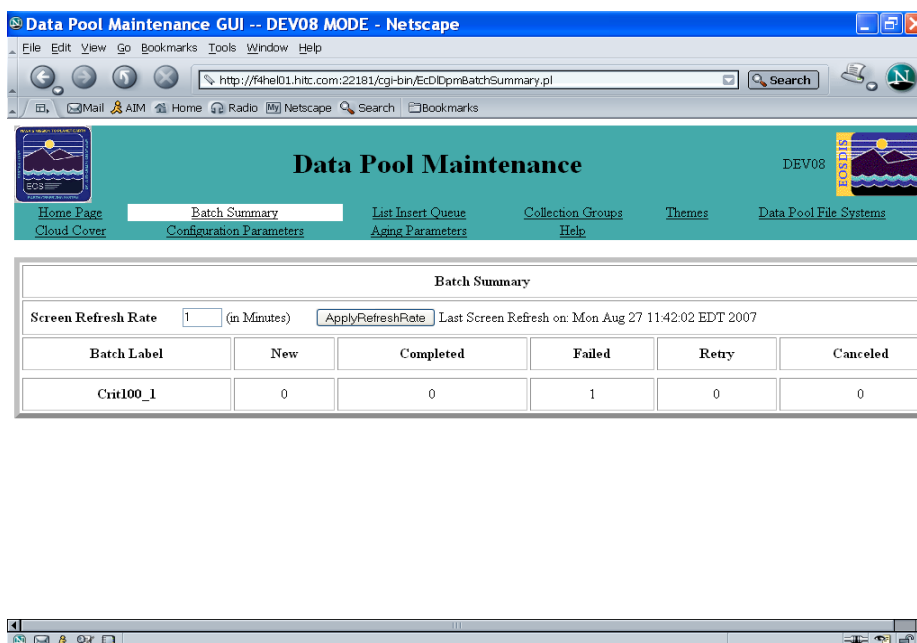

Figure 14.10-10. Batch Summary Page
Figure 14.10-10 illustrates the **Batch Summary** page, which is accessible from the **Batch Summary** link on the **DPM GUI Home Page** (Figure 14.10-2). The **Batch Summary** page displays information on inserts made with the command line utility that permits operators to execute batch inserts of data from the archive into the Data Pool. In addition, it displays a summary of the status of Data Pool inserts for each batch label. Insert statuses include “new,” “completed,” “failed,” “retry,” and “canceled.” The information is accessible to both full-capability and limited-capability operators.
- The **Batch Summary** page is displayed (see Figure 14.10-10).